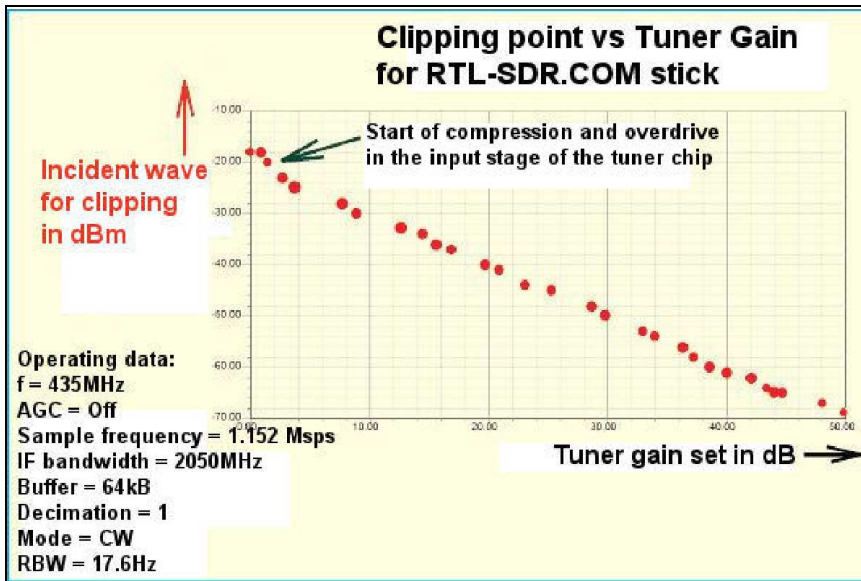

Fig 28: With this trick (via the clipping indicator and tuner gain setting), you can see exactly the input level where the tuner chip is working linearly
**Fig 28** shows the result. You can clearly see the linear range - and when the input stage in the tuner chip is getting too much (and who is bothered by the slightly stepped course of the trace in the linear range, the signal level could unfortunately only be changed in 1dB increments).